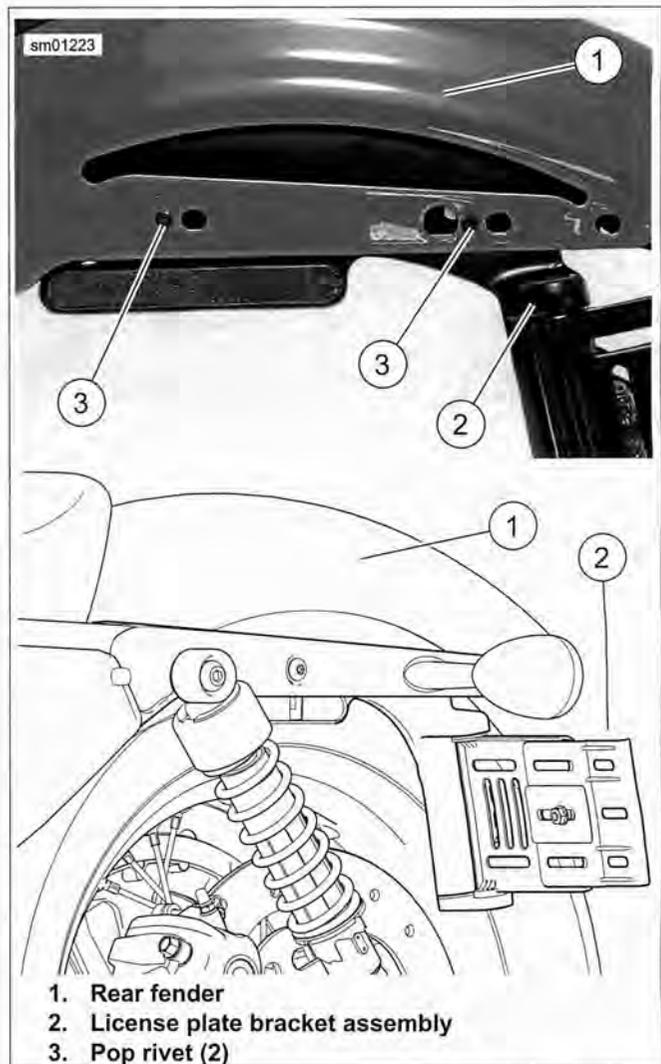

Figure 2-210. Removing/Installing License Plate Bracket Assembly (domestic)
- b. See Figure 2-210. Carefully drill out two pop rivets (3) securing license plate bracket assembly (2) to left side of fender.
- a. Install fender seat nut kit (8).
- a. See Figure 2-210. Position license plate bracket assembly (2) against inside of rear fender (1) on left side. Line up holes in bracket with holes in fender and secure bracket to fender with two **new** pop rivets (3).